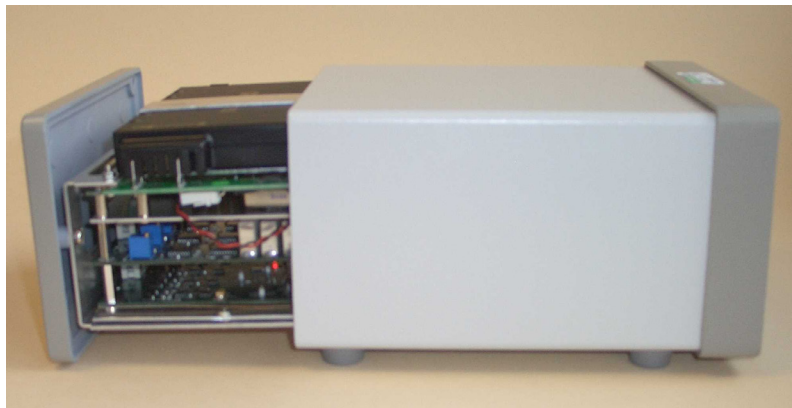
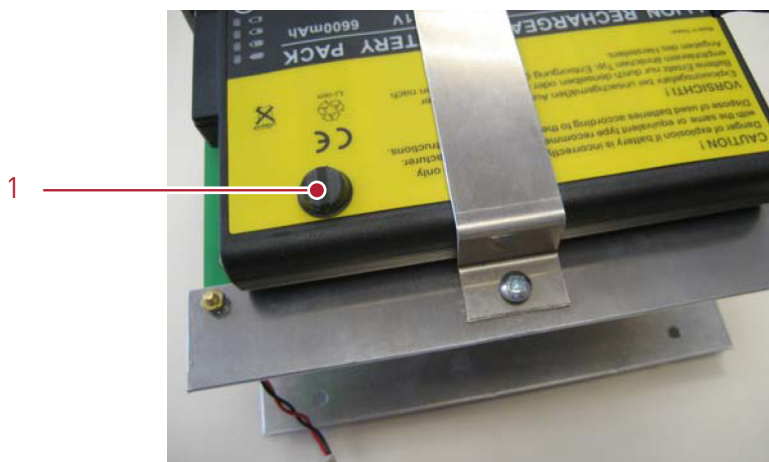

Figure 24a: Internal battery location.
Figure 24b: Battery clamped to top of assembly, with rubber foot attached. [1]
To gain access to the battery, remove the four screws securing the back panel with a 3mm hexagonal Allen key. The battery and all internal circuitry are contained in a single assembly tray with the battery clamped on top. Carefully pull out the assembly tray (**Figure 24a**) until the battery can be seen on the top of the assembly as shown in **Figure 24b**.
To remove the battery, undo the two screws securing the clamp (**Figure 24b**) and carefully withdraw the battery from the connector on the circuit board. To replace the battery, reverse the above procedure.
**Note:** As shown in **Figure 24b**, fit a rubber foot on the top of the battery to prevent vibrations inside the enclosure when assembled.